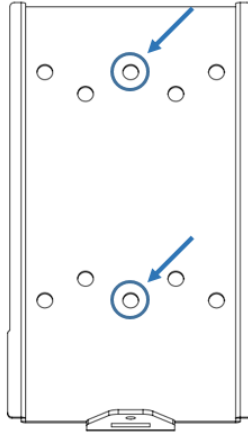

Figure 2-3 Mounting Bracket Screw Hole Locations
5. Install the EVSE (charging station box) bracket to one side of the pedestal so that the middle of the bracket is approximately 48 inches from the ground. Only two screws will be used to attach the mounting bracket to the pedestal, the screws should pass (install) through the middle two vertical screw holes of the mounting bracket as shown in Figure 2-3.